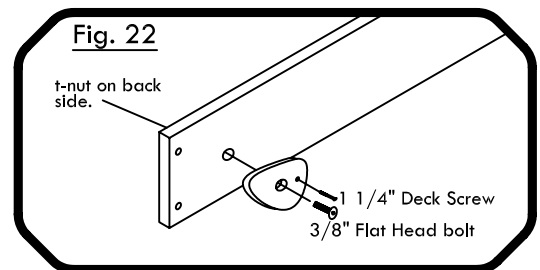

Fig. 22
- (2) Rockwall Boards 'Y'
Step 1: Attach (1) Rockwall Board 'X' to Supports 'H', flush with the top of Cap Board 'K' and 'Lip' on bracket, with 2 1/4" deck screws through pre-drilled holes. (t-nut from phase 8 will be on backside)
Step 3: Using the 3/8" flathead bolts and 1 1/4" deck screws, attach Climbing Rocks to Rockwall Boards as shown (see Fig. 22)